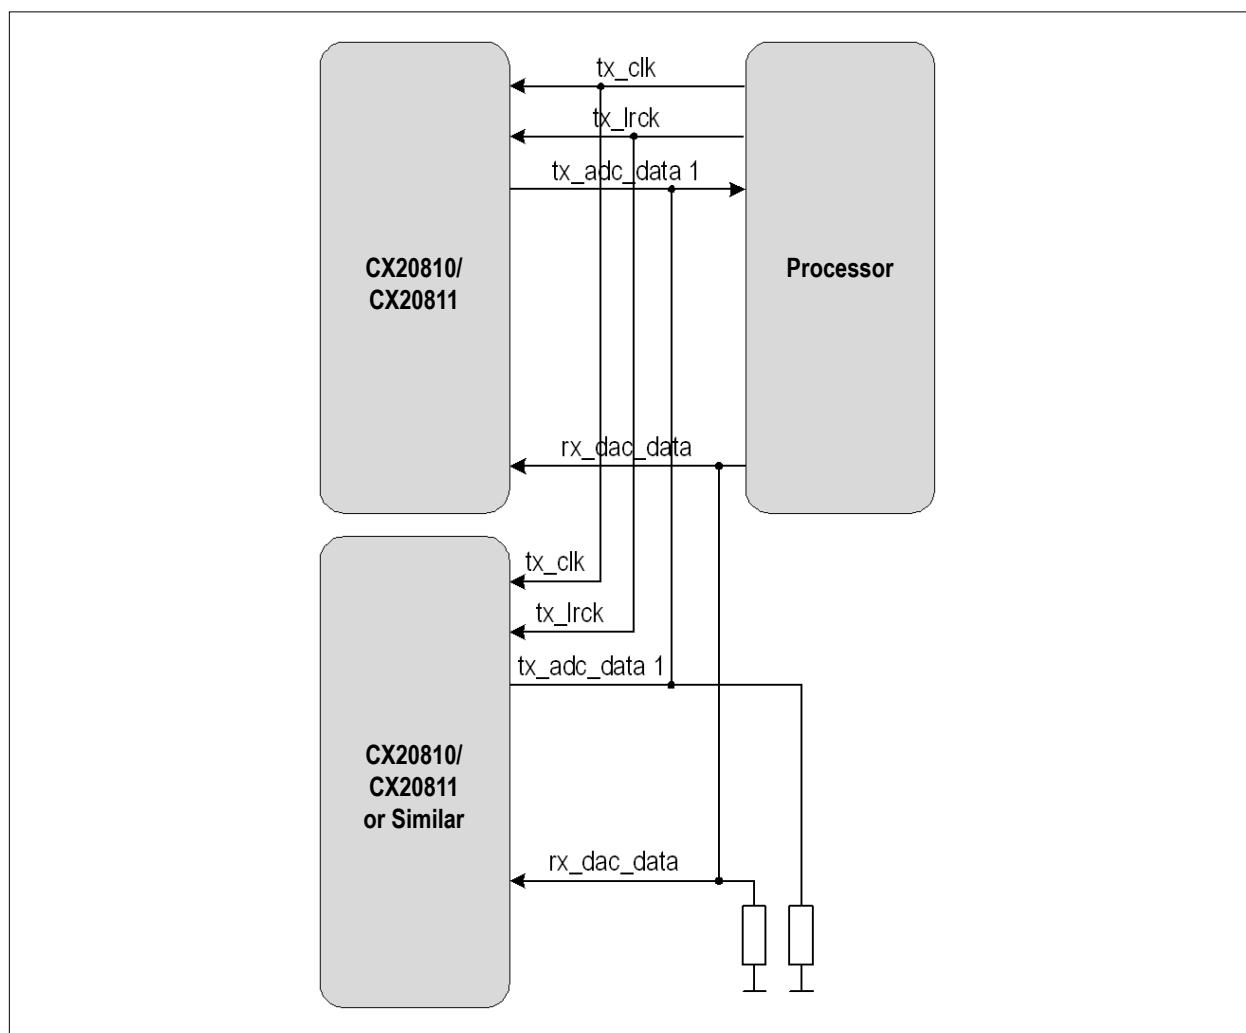

Figure 94: TDM with Processor as the Master
- Figure 94 on page 172 provides the TDM with the processor as the master
Figure 94 on page 172 shows an example of an eight-channel, 32-bit implementation in which the CX20810/CX20811 can supply ADC data on any specific allotted slots. The unused slots can be shared by other CODECs.
Each CX20810/CX20811 device can support up to four ADC channels on the same I²S bus. A system that combines two or three devices together can provide eight or 12 channels of recording. All of the channels can then be transferred to the host processor on a single DATA line using the I²S TDM/PCM format. Figure 94 on page 172 shows an example where two CX2081X devices operate in slave mode and support 8 recording channels.